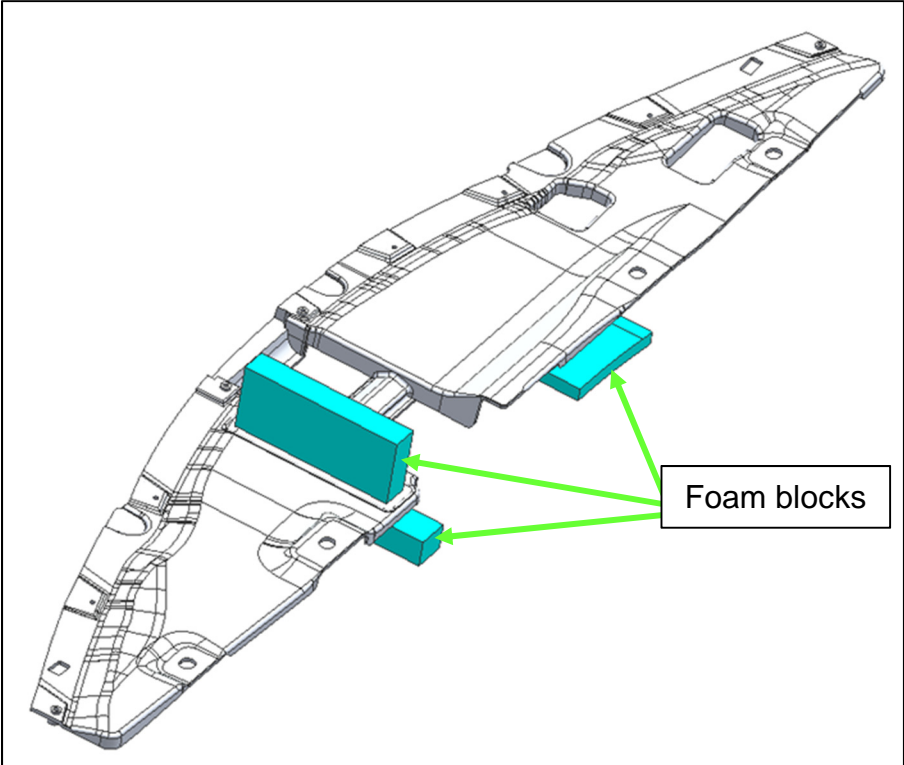

Figure 12
12. Confirm if the foam blocks have already been installed onto the front grille spacer, as shown in Figure 12: